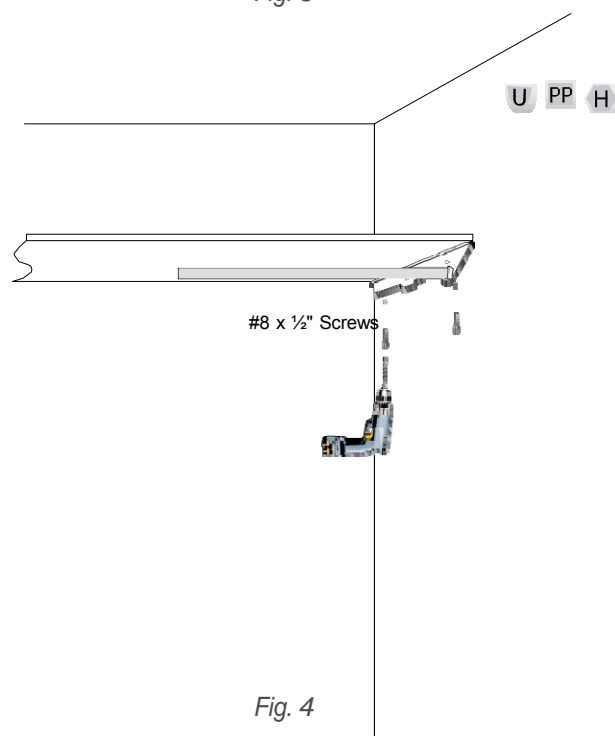
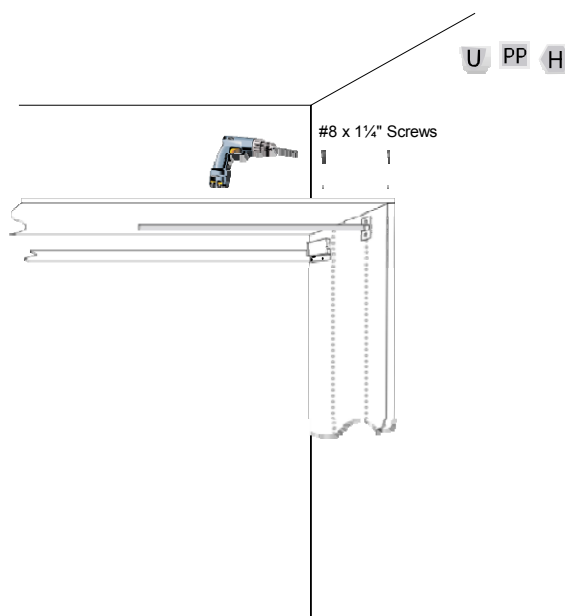

Fig. 4
Fig. 6
13. Fasten the top shelf to a bracket using two (2) #8 x 1/2" screws mounted from underneath the bracket. (See Fig. 4.) (If the top shelf is being fastened to hanging uprights and cleats, use #8 x 1/4" screws. (See Fig. 6.) Top shelves should be fastened to all uprights/towers using #8 x 1/4" screws.
Fig. 6 shows assembly of top shelf and pole with hanging short upright and rail. Use #8 x 1/4" screws to fasten top shelf to uprights and cleats.